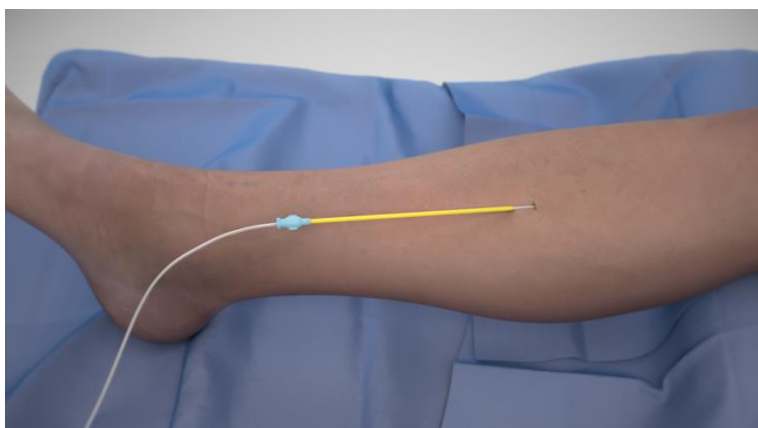

Figure 3
4. Gently retract the introducer cannula under intermittent or live fluoroscopy, exposing the neurostimulator's final position. (Figure 3)